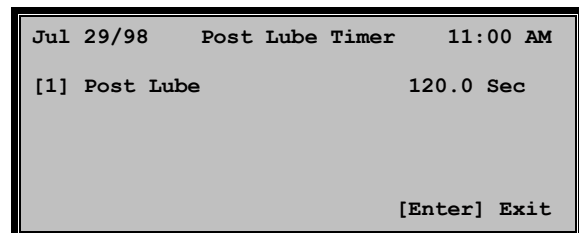

Figure 2-30
- (b) The POST LUBE TIMER screen (Figure 2-30) will be displayed.